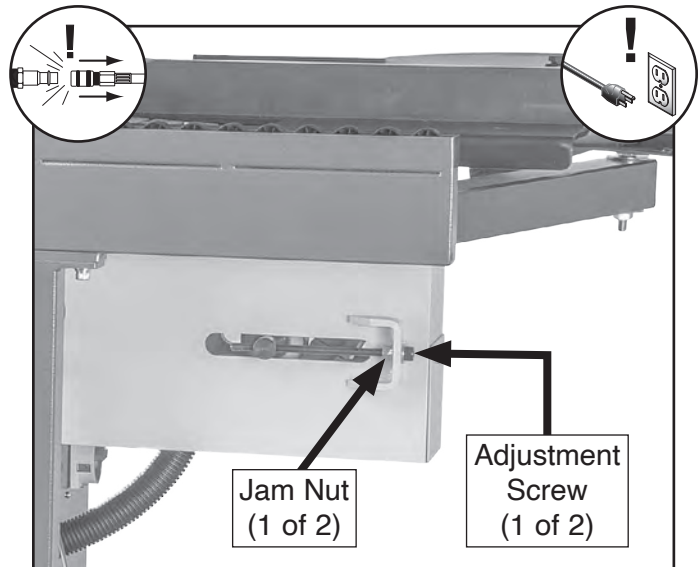

Figure 79. Location of jam nuts and adjustment screws.
2. Loosen both adjustment screw jam nuts (see **Figure 79**).